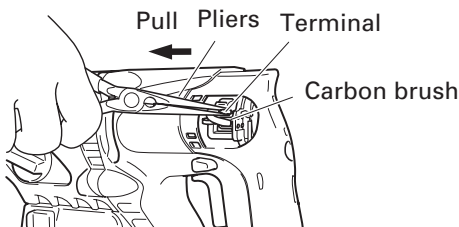

Fig. 23
- (2) Pinch the terminals for the carbon brushes with pliers, then pull them out of the brush holder. (Fig. 23)